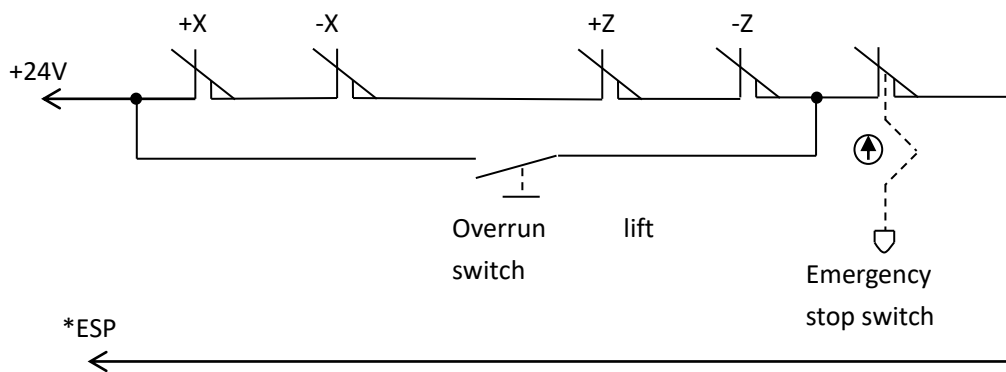

Fig. 2-34A Emergency stop and stroke switch connected in series
- ① The stroke limit is connected in series with the emergency stop, as shown in Figure 2-34A below: